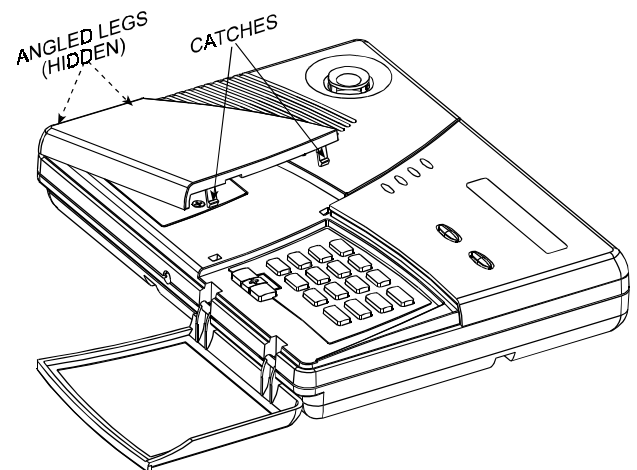
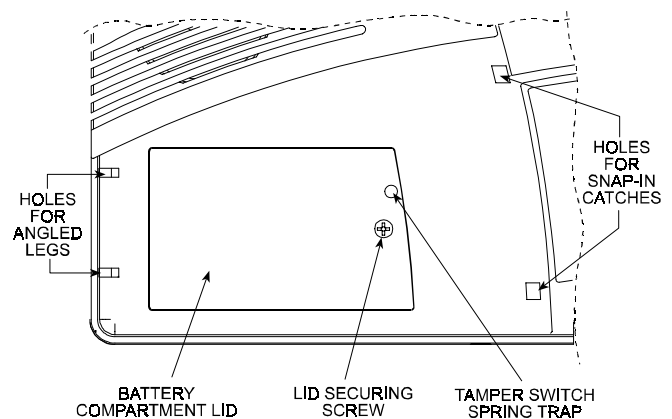
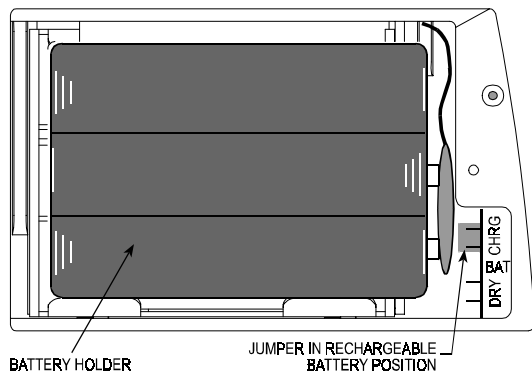

Figure 2. Removing the Battery Area Cover
Figure 3. Battery Area after Cover Removal
Figure 4. Battery Type Selection Jumper
A fully equipped alarm system based on the PowerMax consists of the units shown in Figure 2 of the user's guide.
C. Swing the cover up as shown in Figure 2, then pull free the angled legs at the left and put the cover away. The inner lid will now be in full view (see Figure 3).
D. Remove the screw that secures the lid (see Figure 3), swing the lid up and pull it away. You now have access to the battery holder (see Figure 4).
E. Pull out the battery holder and check that the battery type selection jumper is positioned in accordance with the type of batteries being installed (see Figure 4). For alkaline (dry) cells, the jumper should be mounted on